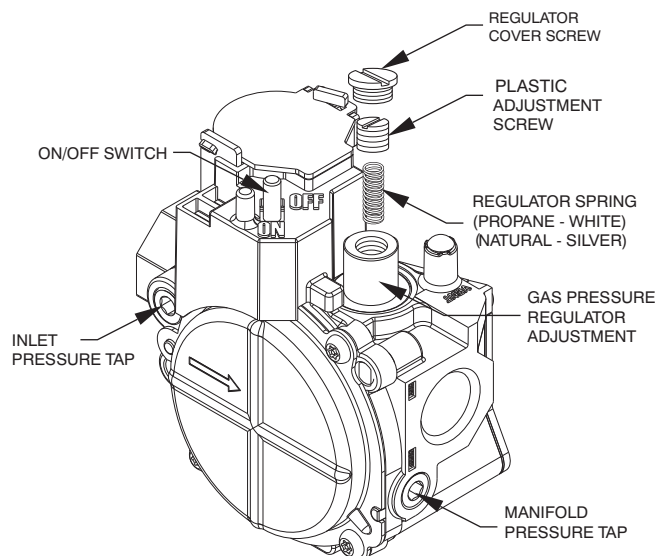

Fig. 13 – Single-Stage Gas Valve
2. For ultra low NOx models remove manifold pressure tap cover using an allen wrench. (See Fig. 13). Install barbed pressure tap and hose to connect to manometer. Turn on gas supply to unit.
- Remove regulator cover screw over plastic adjustment screw on gas valve (See Fig. 13).
- Turn plastic adjustment screw clockwise to increase gas input, or turn plastic adjustment screw counterclockwise to decrease input (See Fig. 13). Manifold pressure must be between 3.2 and 3.8 IN. WC.
- Replace regulator cover screw on gas valve (See Fig. 13).
- Turn off gas supply to unit. Remove manometer hose and barbed pressure tap. Replace pressure tap cover using an allen wrench (See Fig. 13.) Turn on gas to unit and check for leaks.